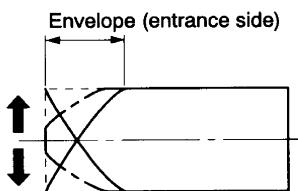

Fig. 2-1-85 Video envelope rising when operation mode is switched from review to play mode
2. Switch the Review mode to the Play mode. When switched to the Play mode, make sure the entrance side envelope comes to an approximate steady state within 3s as shown in Fig. 2-1-85.
3. Switch the cassette slot-in mode to the Play mode. As in item 2), if it does not rise within 3s, adjust as follows.